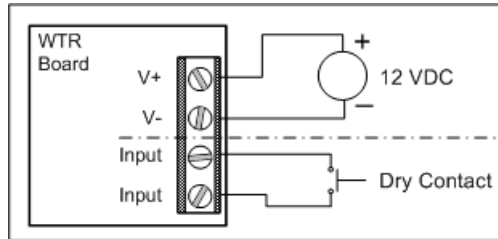
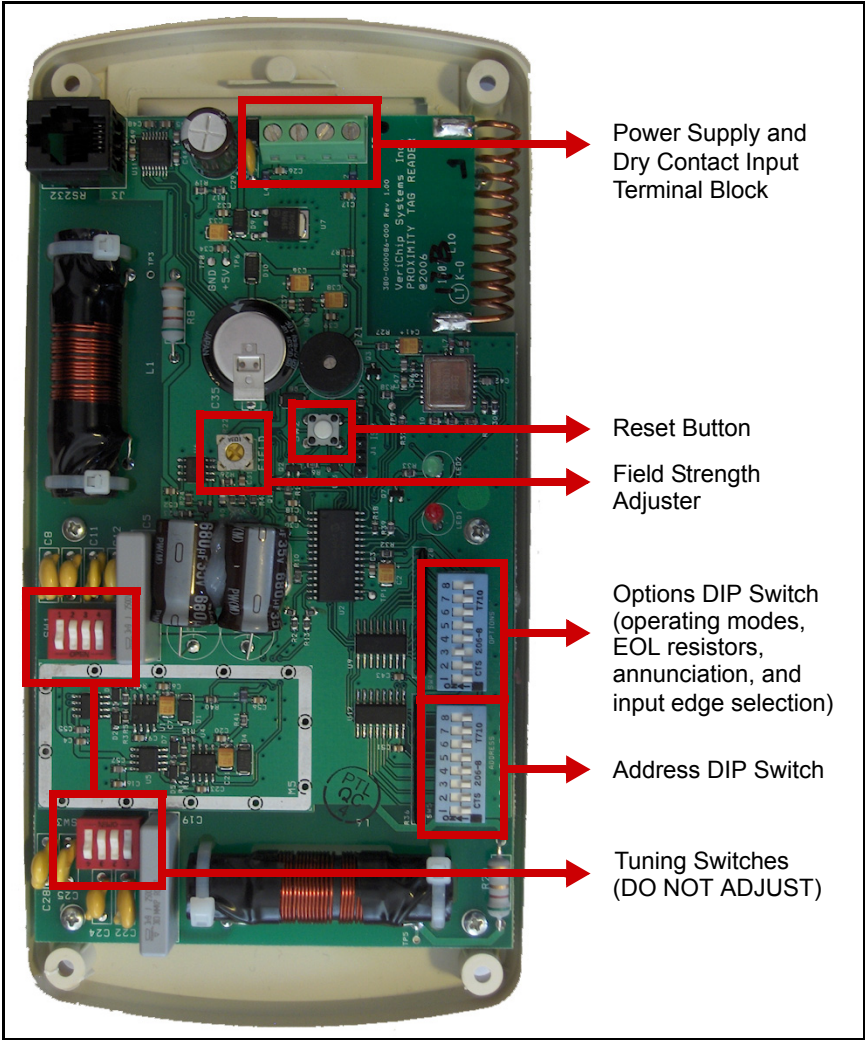

Figure 3-36: 4 Pin Terminal Block Wiring
Figure 3-37: WTR Circuit Board
- 9 Push the power wire through the WTR backplate and work it towards the wiring connector. Connect the power wires as in Figure 3-36. See Figure 3-37 on page 3-69 for terminal block location and orientation.
- 10 Optionally, connect the dry contact input wires as shown in Figure 3-36.
- 1 Locate the Options DIP switch (see Figure 3-37 on page 3-69).